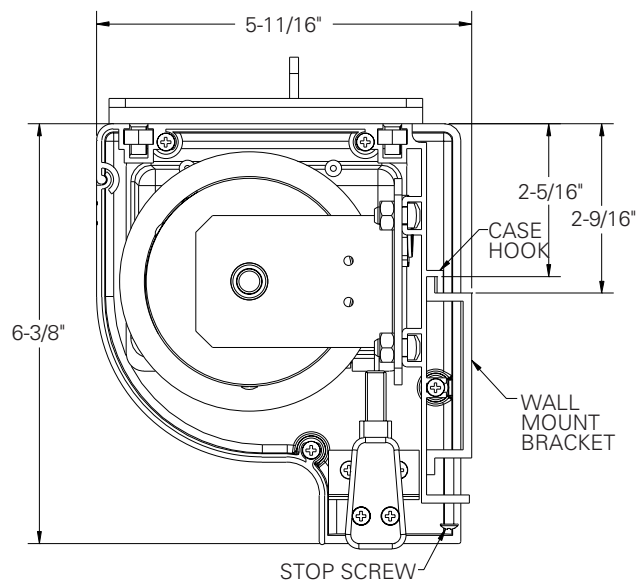

FIGURE 1
2. Make sure the brackets are in line and level. See figure 1 for reference dimensions.
4. Mount the screen case on the wall bracket as shown in figure 1. Be sure the case is fully seated on the bracket. Tighten the stop screws against the wall brackets.